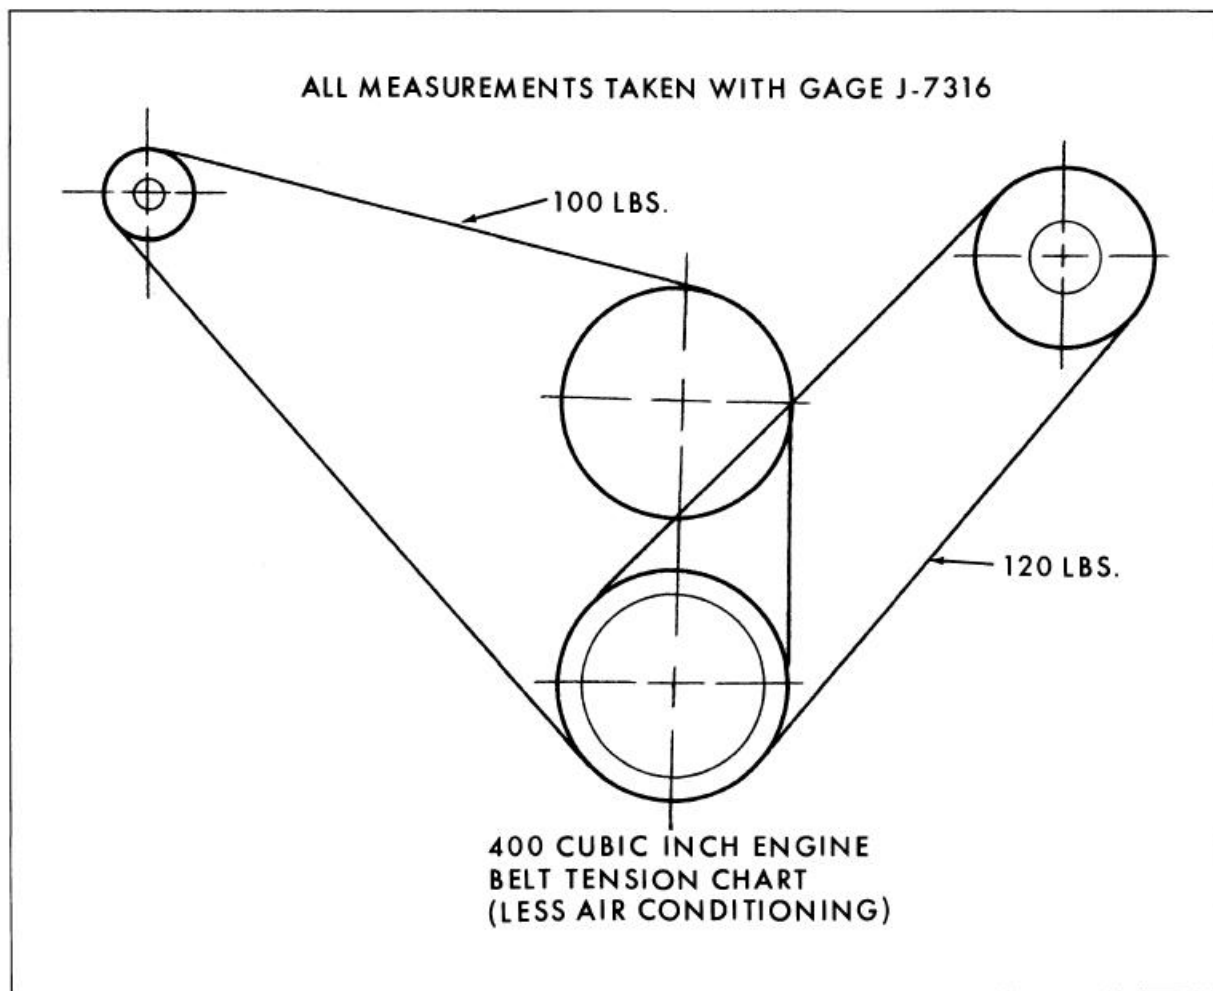

Figure 2-35—Belt Tension Chart - Air Conditioned Jobs
belt. After the Delcotron generator brace and mounting bolts are securely tightened, the fan belt tension should be checked as shown in Figures 2-35 and 2-36.
If the power steering oil pump belt is removed it should be adjusted as shown in Figures 2-35 and 2-36.
If the Air Conditioner compressor belts are removed they should be adjusted as shown in Figures 2-35 and 2-36.
3. Install fan pulley or pulleys, spacer and fan blade, tighten attaching bolts securely. Install belt or belts and adjust for proper tension. See Figures 2-35 and 2-36.